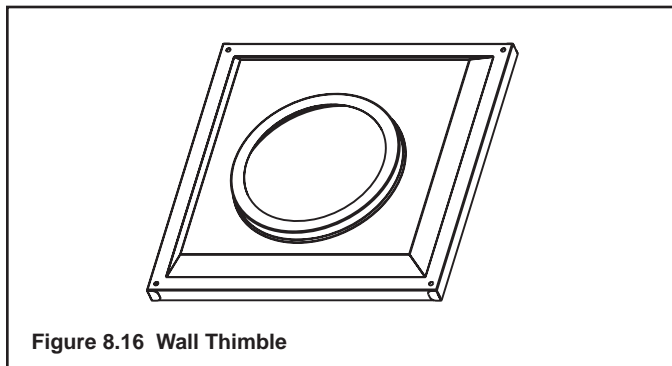

Figure 8.16 Wall Thimble
- Once the pipe section and the termination cap have been connected, slide the wall thimble up to the interior wall surface and attach with screws provided. See Figure 8.16.